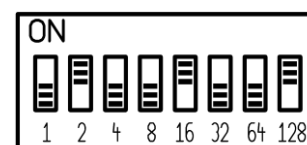

Fig. 2:
Set the address of the JAB6610 module using the Dual Inline Package (DIP) switches on the face of the JAB6610 module. The address equals the sum of the numbers set to ON. For example, if the second (2), the fifth (16), and the eighth (128) DIP switches are set to ON, the device address is 146 (2 + 16 + 128 = 146). See Figure 2.